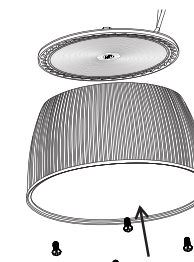
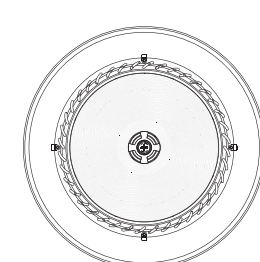

FIG 3.1
FIG 3.2
2. Four screws lock the reflector to the lamp (FIG 3.1 and FIG 3.2);